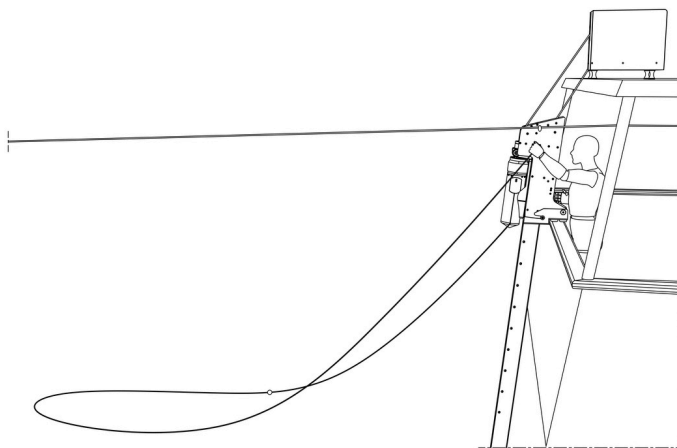

Figure 2.9. Correct snood pay out before pressing cycle button.
- 2 **Pay out snood** from the gear bin so snood drags in the water behind the boat. This is important to minimise tangles (Figure 2.9). Ensure the snood does not foul the track near the water line; this is especially important when setting with a following wind.